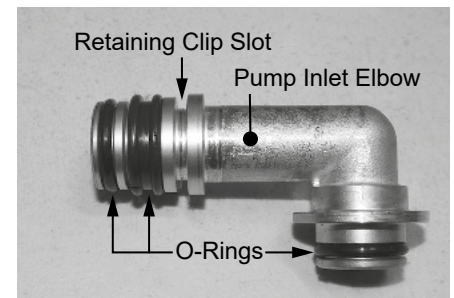

Figure 9 - Pump inlet elbow O-rings
• Locate new pump inlet elbow and three (3) O-rings provided in the kit. The pump inlet elbow uses one (1) 15 x 2.5 O-ring on the inlet side, one (1) 16 x 7 double seal O-ring on the inlet side, and one (1) 15 x 2.5 O-ring on the outlet side. Install O-rings to elbow. Install elbow to water pump and secure with retaining clip. Proceed to **Step 33** if not replacing water pump. See Figure 9.
The pump inlet elbow uses one (1) 15 x 2.5 O-ring on the inlet side, one (1) 16 x 7 double seal O-ring on the inlet side, and one (1) 15 x 2.5 O-ring on the outlet side. See Figure 9.